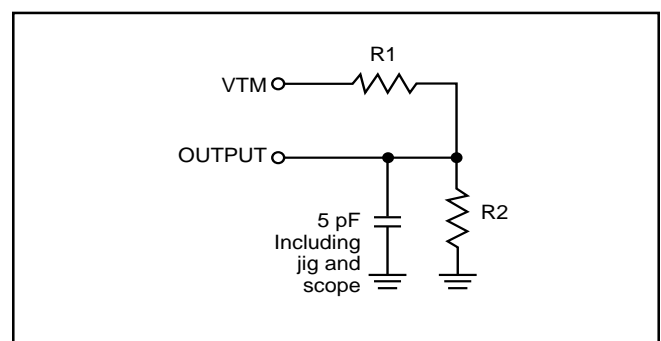

Figure 2
2. Tested with the load in Figure 2. Transition is measured  $\pm 500$  mV from steady-state voltage. Not 100% tested.
3. Tested with the load in Figure 2. Transition is measured ±500 mV from steady-state voltage. Not 100% tested.